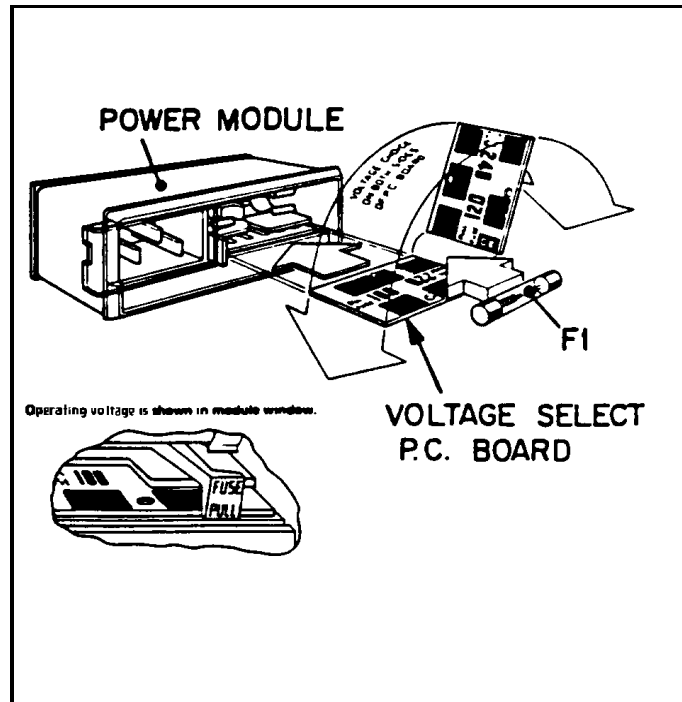

**Figure 2-2. Rear Panel Detail (6624A Shown)**
You can operate this power supply from a nominal 100 V, 120 V, 220 V or 240 V single phase power source at 47 to 66 Hz. The input voltage range, maximum input current, high line inrush current (PK), and the fuse required for each of the nominal inputs are listed in Table 2-1. You can check the line voltage setting of your supply by examining the door on the line module. This is located on the rear panel of your supply as shown in Figure 2-2.
The HP-IB connector on the rear panel connects your power supply to your computer and other HP-IB devices (see Figure 2-2). Chapter 1, page 12 lists the cables and cable accessories that are available from Hewlett-Packard. An HP-IB system can be connected together in any configuration (star, linear, or both) as long as the following rules are observed: